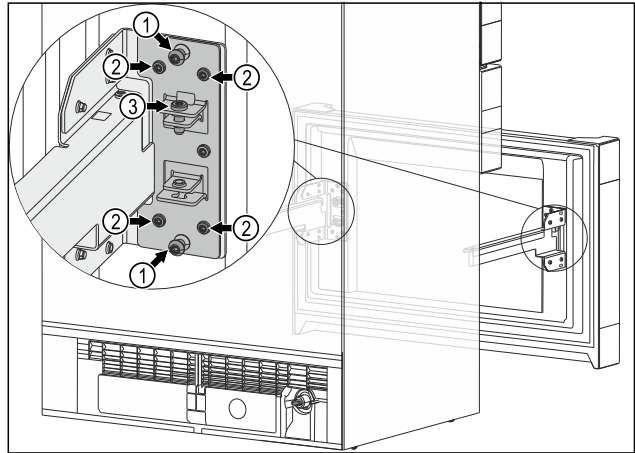

Fig. 13
- ▶ Remove the two centre screws Fig. 13 (1).
- ▶ Loosen all four screws Fig. 13 (2).
- ▶ The telescopic unit has reached its end position: Tighten all four screws Fig. 13 (2) tight.
- ▶ The centre screws Fig. 13 (1) are no longer needed.